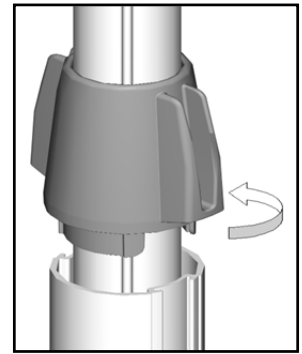

Figure 19
8. Lift the blue locking handle out of the lower portion of the post (see Figure 9 - item #3). Using the blue piece as a handle, twist the post as follows (see Figure 19):